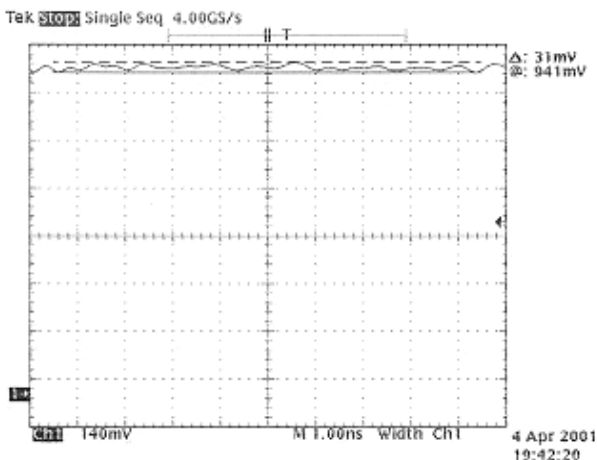
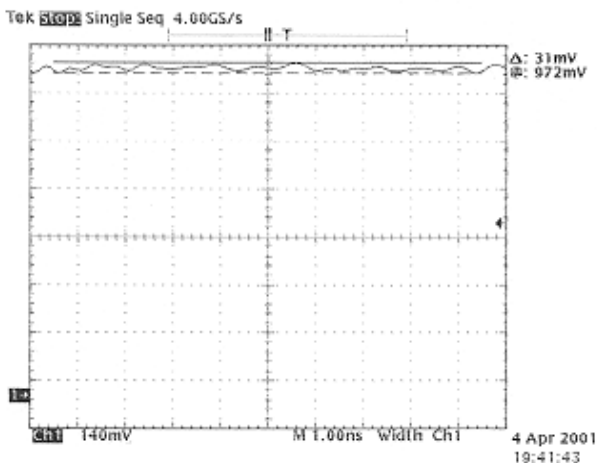

Figure I-9 Positive Pulse Peak, lower cursor
Figure I-10 Positive Pulse Peak, upper cursor
16. Scroll horizontally through the waveform, until the approximate center of the pulse peak is visible on the oscilloscope display. Select the horizontal cursors. Move one cursor to the top of the ripple on the peak voltage. Move the second cursor to the bottom of the ripple on the peak voltage. The average of these two cursor levels is the pulse top voltage that is used to calculate the 10% and 90% points on the rising and falling edges. [See Figure I-9 and Figure I-10.]